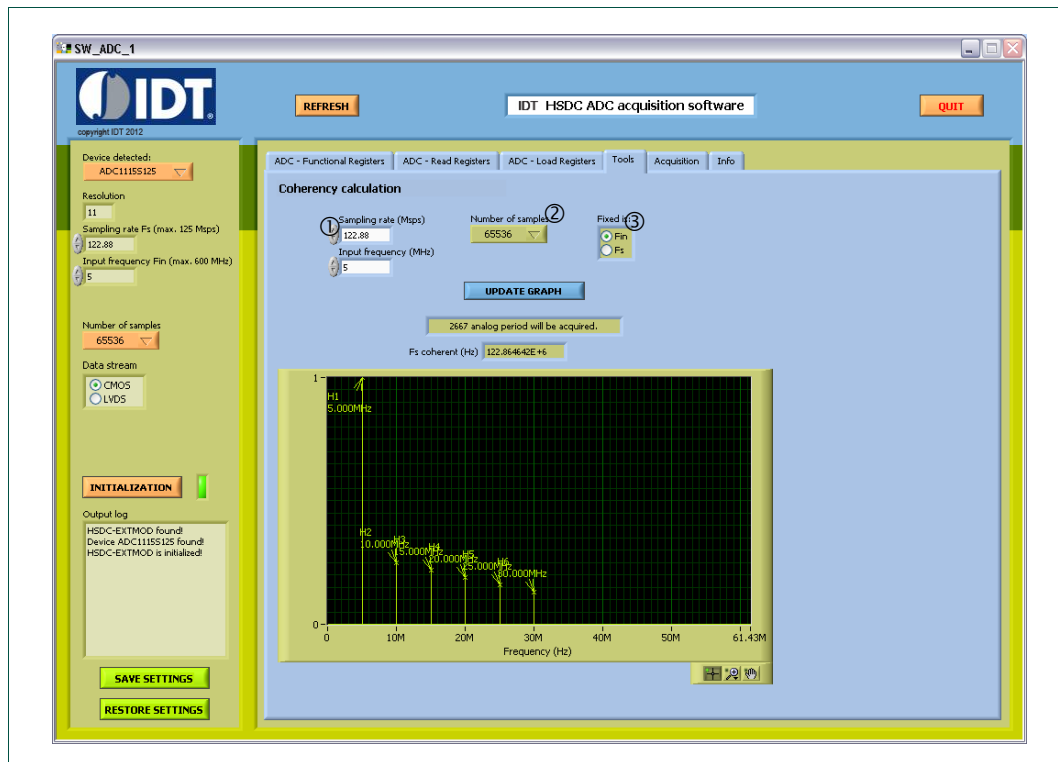

Fig 13. SW_ADC_1_r02: “Tools” page
- Browse to select your file (button ①);
- Click on “Load data” button ②.
A message on field ③ and a progress bar will inform about the status of the operation until message “download done!” is seen. The table ④ is updated with the current values downloaded at the fly as can be seen on figure 13.